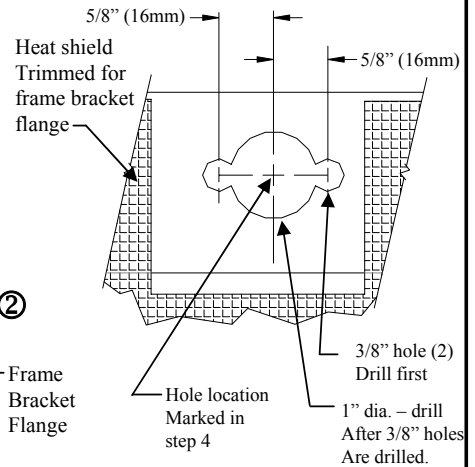

Figure 2
①	Qty. (2)	Hex Bolt - 1/2-13 x 1.50 GR5	④	Qty. (2)	Block - 1/4 x 1 x 3 (Square Hole)
②	Qty. (4)	Block - 1/4 x 1 x 2	⑤	Qty. (4)	Lock Washer - 1/2"
③	Qty. (2)	Carriage Bolt - 1/2-13 x 1.75 GR5	⑥	Qty. (4)	Hex Nut - 1/2-13
- Remove passenger's side exhaust hanger by removing (2) bolts which attach exhaust hanger bracket to frame. Retain bolts for reinstallation.
- Take down hitch. Drill access holes in frame rails in areas marked in step 4 (See figure 2)